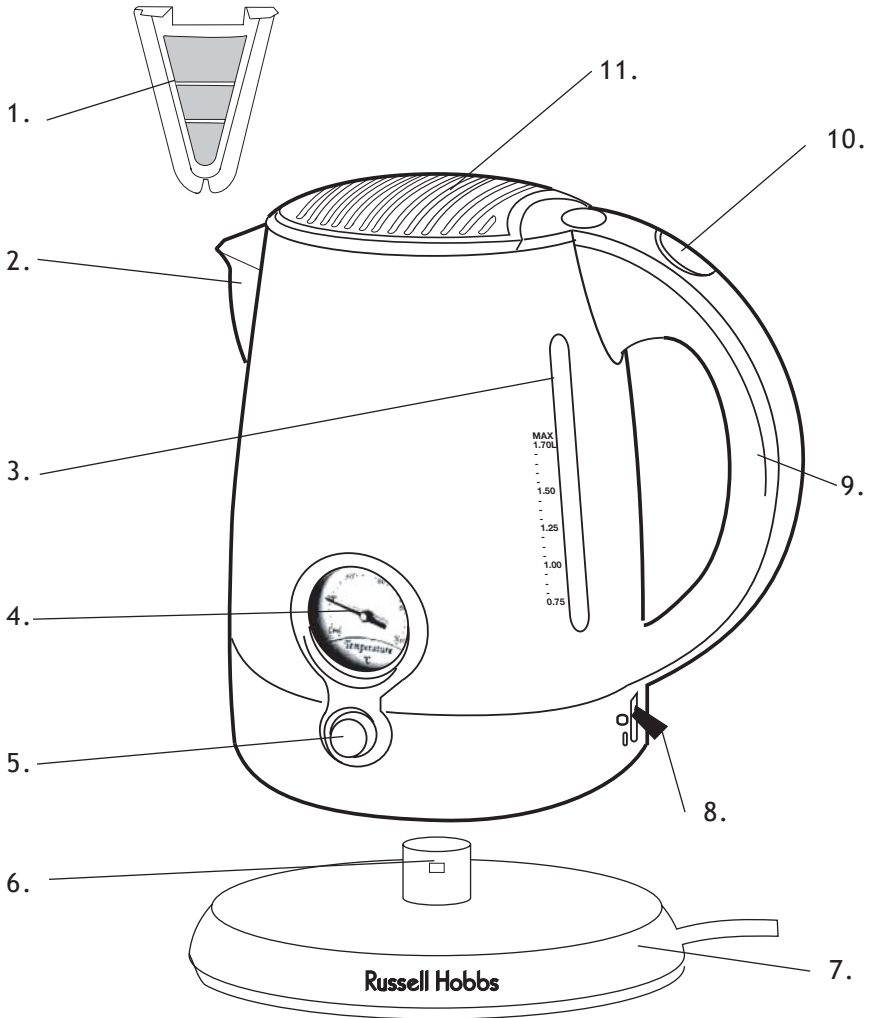

Figure 1
2. Raise the ON/OFF Lever into the OFF (o) position. (See Figure 1.)